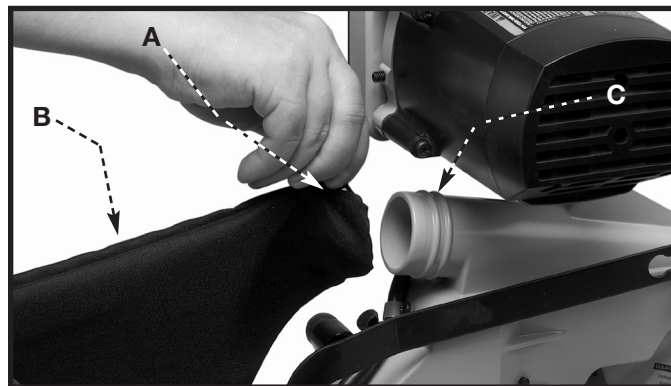

Fig. 6
Depress the **dust bag** spring clips (A) Fig. 6, and secure the dust bag (B) between the ridges of the spout (C).